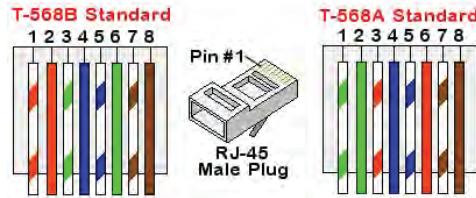

Figure 37: Standard cable wiring
- c. Insert the eight wires into an RJ45 connector, as described in *Figure 37*.
7. For the switch/router side, use a pre-crimped cable or use a crimper to prepare an RJ45 communication connector: Insert the eight wires into the RJ45 connector in the same order as above (*Figure 37*).